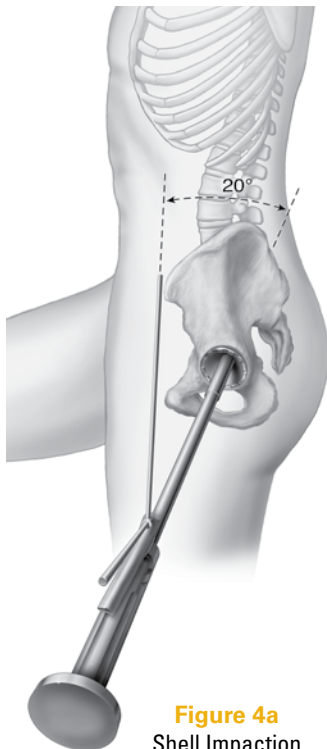
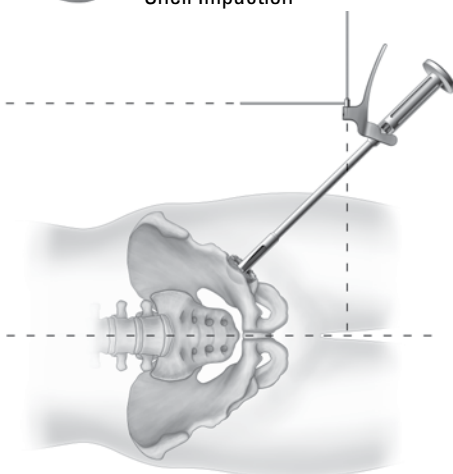

Figure 4a
Figure 4b
Step 3: Assemble the **Shell Impactor Alignment Guide** to the Shell Impactor. Once assembled, rotate the Alignment Guide to the appropriate L/R marking on the Shell Impactor. Introduce the shell into the reamed acetabulum and impact it into place. Once impacted, the horizontal rod of the Alignment Guide should be positioned parallel to the long axis of the body (*Figure 4a*) for a 20-degree anteverted shell position (if patient is in the lateral decubitus position) while the vertical rod should be pointed towards the ceiling, perpendicular to the ground for 45 degrees of shell inclination (*Figure 4b*). Correct alignment is typically 45 degrees of inclination and 20 degrees of anteversion as indicated by the Alignment Guide. Seating of the Acetabular Shell at this position is recommended to ensure proper positioning and to decrease the potential for dislocation and impingement. Stability of the bone-implant interface should be checked by applying moderate force to several areas on the rim of the prosthesis. The acetabular implant should be firmly fixed within the acetabulum, with no gaps between the shell and the acetabulum. If the shell rotates within the acetabulum, a larger shell must be selected and the bone preparation process should be repeated by reaming to a larger size.